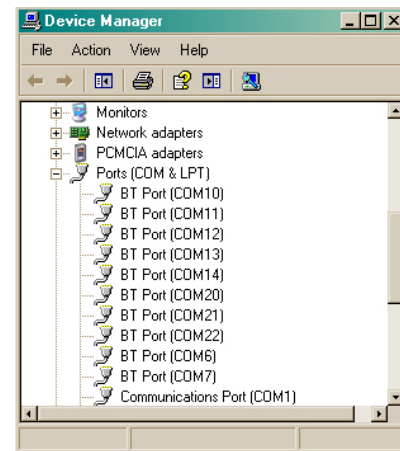

Figure 12: Ports (COM & LPT) in Device Manager
6. From the **Configuration** option in the menu bar, select **Set Comm Port**. The Comm Settings window opens (Figure 12).